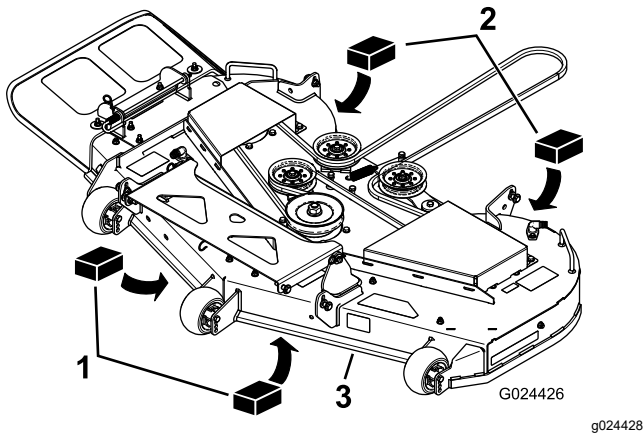

Figure 61
3. Place 2 blocks each having a thickness of 6.6 cm (2-5/8 inches) under each side of the front edge of the deck, but not under the anti-scalp roller brackets (Figure 61).
4. Place 2 blocks each having a thickness of 7.3 cm (2-7/8 inches) under the rear edge of the cutting deck skirt; 1 on each side of the cutting deck (Figure 61).